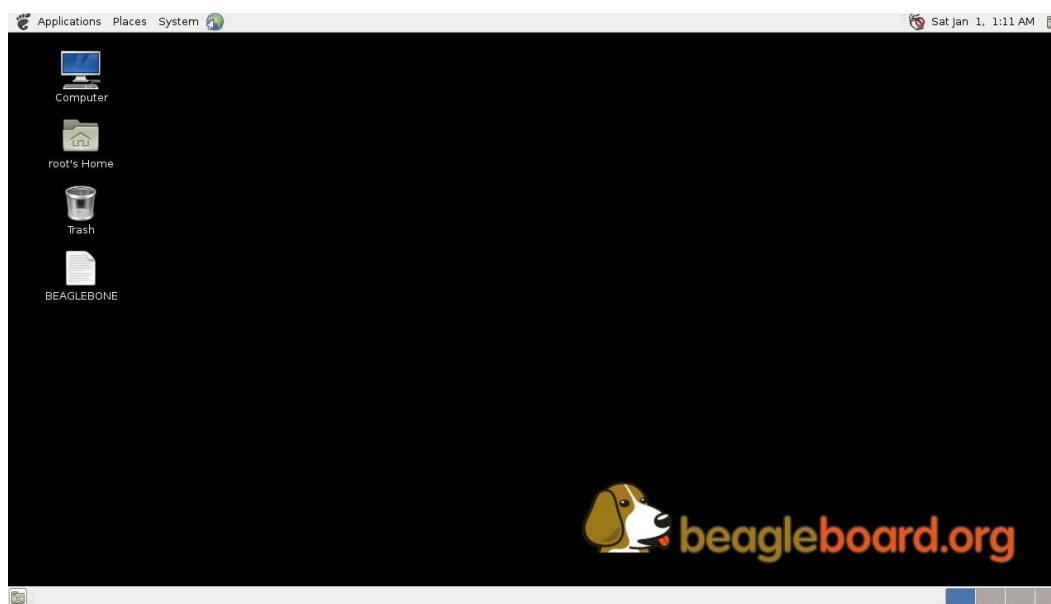

Figure 16      Desktop Screen
- c. After a minute or two the desktop will appear. It should be similar to the one shown in **Figure 16**. HOWEVER, it will change from one release to the next, so do not expect your system to look exactly like the one in the figure, but it will be very similar.
- d. And at this point you are ready to go! **Figure 16** shows the desktop after booting.